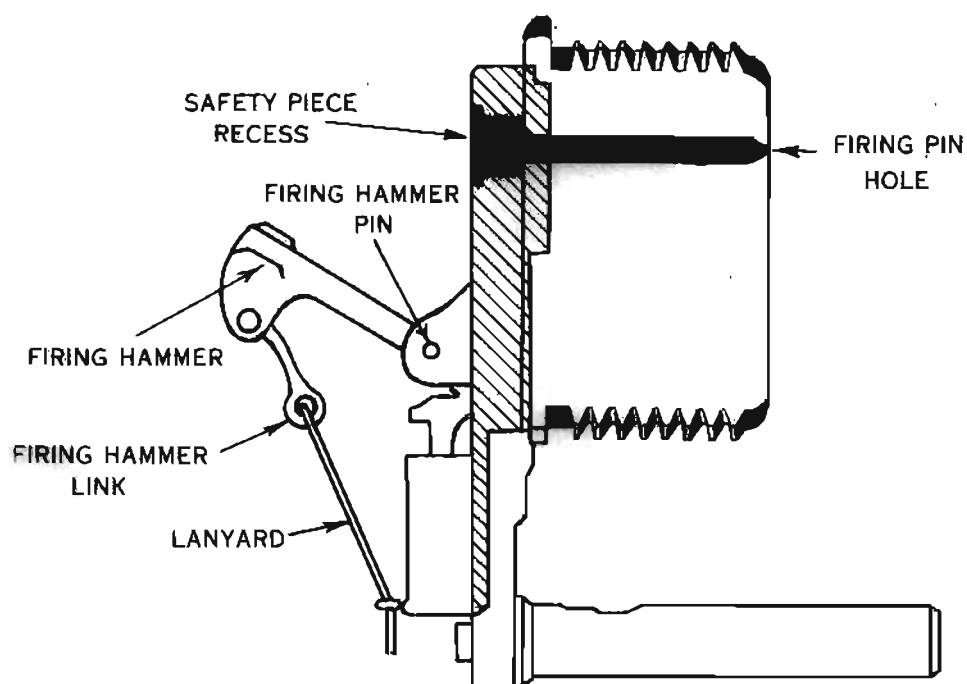

Figure 15
3. Safety piece assembly fits in a recess in breechblock arm (fig. 15).
2. The pin is located in a firing pin hole in breechblock (fig. 15).